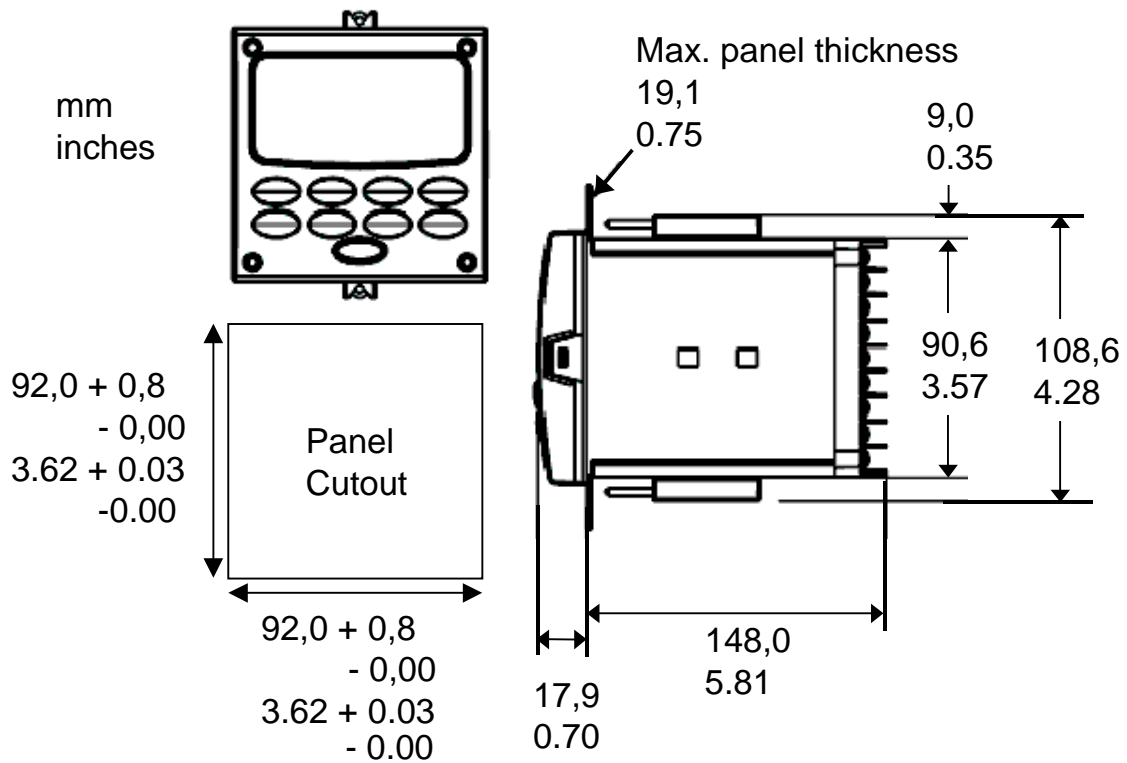

Figure 3-2 Mounting Dimensions (not to scale)
- Overall dimensions and panel cutout requirements for mounting the controller are shown in Figure 3-2.
1	Mark and cut out the controller hole in the panel according to the dimension information in Figure 3-2.